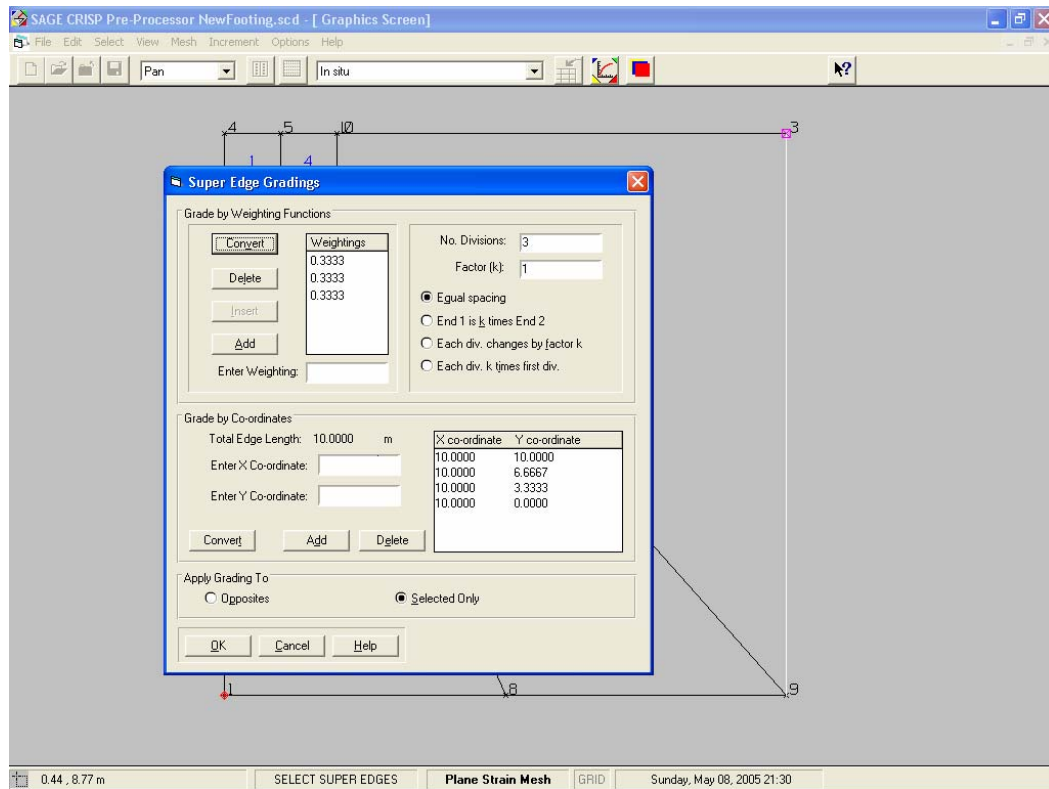

Figure 19 Defining Edge Gradings on right side
- Step 40** Enter '3' into the **Number of Divisions** text box and click on the **Equal Spacing** option. Weighting values will be automatically entered and the dialogue box should now look like Figure 19.